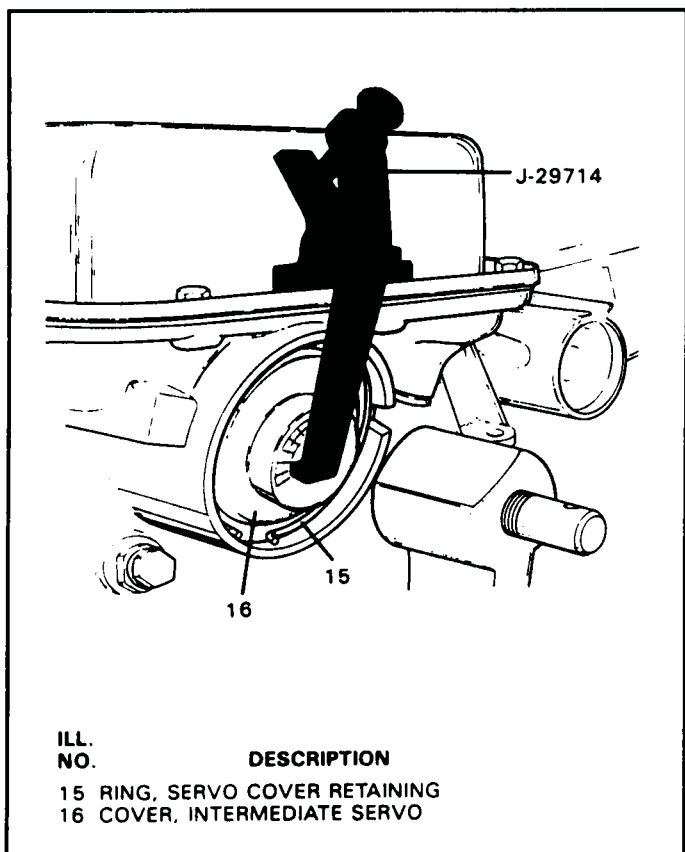

Figure 30
5. Install servo compressor tool J-29714 as shown in Figure 30, and compress servo cover.
6. Remove the servo cover retaining ring as shown in Figure 30 with small screwdriver.